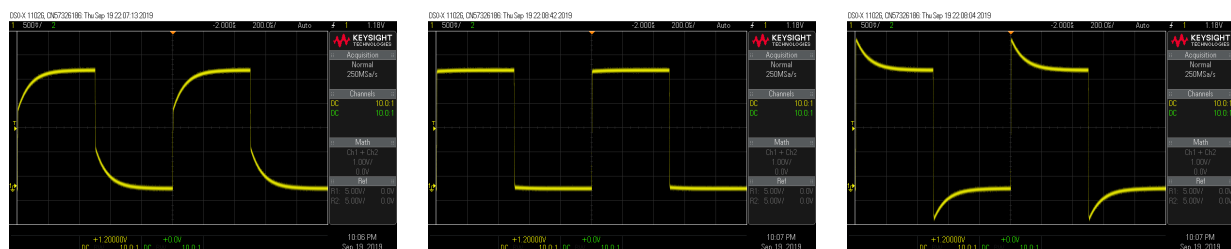

Figure 5: Square waves from probes with different compensations. From left to right: over-compensated, well-compensated, under-compensated.
4. Measure two instances of the time constant, τ —one when the oscilloscope probe is fully under-compensated and one when the oscilloscope probe is full over-compensated. The oscilloscope waveforms should appear similar to those shown in Figure 5.
As you can see in Figure 5, when compensating the probe using the oscilloscope's reference signal, you can have either overshoot or undershoot on the square wave. You can attach the probe tip to the probe compensation terminal and connect the probe to an input of the scope. Viewing the square wave reference signal, make the proper adjustments on the probe using a small screw driver so that the square waves on the scope screen look square. What you are adjusting is a variable capacitor at the tip of the probe. If low-frequency adjustment is not properly made, this will result in high-frequency inaccuracies in your measurements. It's very important to make sure this compensation capacitor is correctly adjusted.